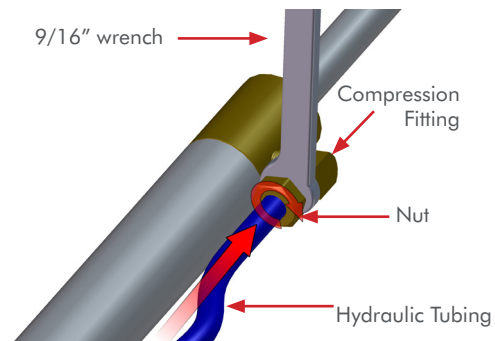

Figure 3
STEP 3 Insert the **BLUE Hydraulic Tubing** and **Ferrule** into the **Compression Fitting** on the lower U-Channel. With the **Tubing** fully inserted, thread on the **Compression Fitting Nut**. Repeat this procedure with the **BLACK Tubing** and the other **Compression Fitting**. **FIG 3**